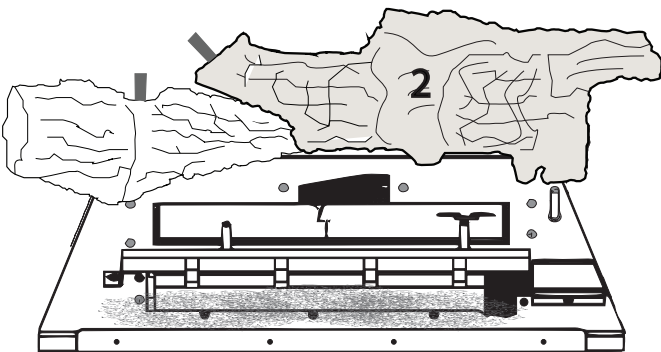

Figure 21 - Log #2 Placement
3. Place Log #2 on the right-hand side of the burner assembly by positioning the pin locator hole onto the log pin on the right-hand side of the burner; then rotate the part to the back. When in place, make sure the back of Log #2 is up against the bend on the back of the burner assembly. See Figure 21.